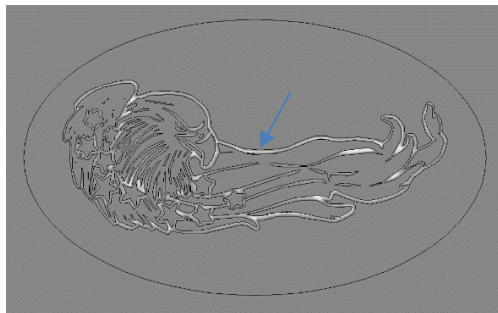

Fig. 18
21. You now have a set of vectors around the areas which need to be RM (Fig. 18).